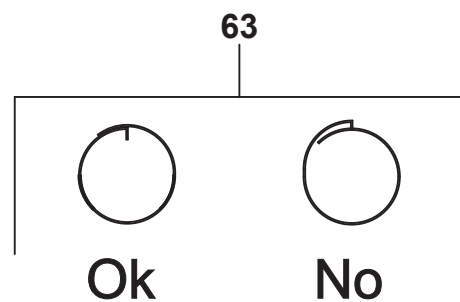

Fig. 9.1
9.1.2) Clean the cartridge pos.63 thoroughly, make sure there are no breakages and fit back in place (pay attention, as per fig.9.1).